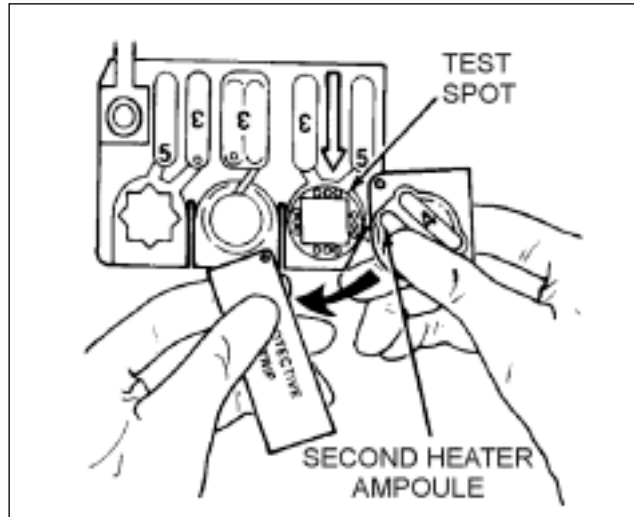

Fig 4-18. Crushing second heater ampoule.
- (14) After 10 minutes, activate the second heater ampoule marked number 4 (fig 4-18).